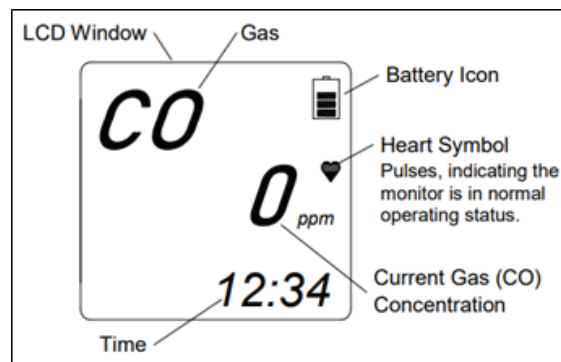

Figure 13
**4.1.1.3** After the startup sequence, the COVX goes into Measuring Mode (normal operating mode) when the alarm beeps and the LCD screen is as shown in Figure 13.